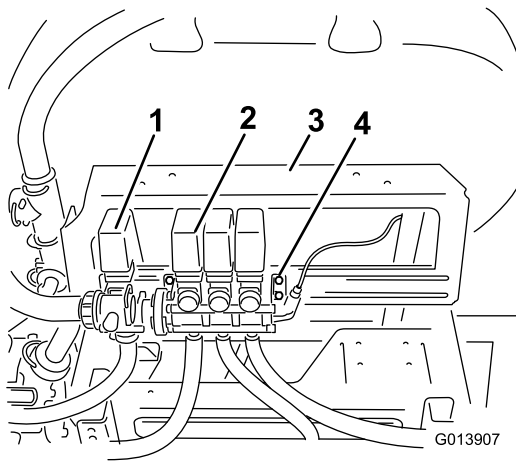

Figure 3
1. Loosen, but do not remove, the bolts securing the boom valve assembly to the mount bracket (Figure 3).